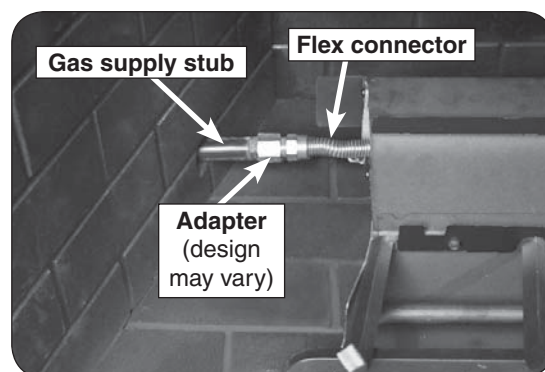

Fig. 8-2 Connect flex to gas supply
2. Locate the gas-supply stub inside the fireplace and remove the cap, if attached (reference Fig. 8-2).
5. **Be sure gas to the fireplace is off.** Remove the large adapter connected to the flex connector. Attach the adapter to the gas-supply stub using a pipe compound resistant to all gasses. Tighten securely. Then attach the flex connector to the adapter. Tighten securely (See Fig. 8-2).